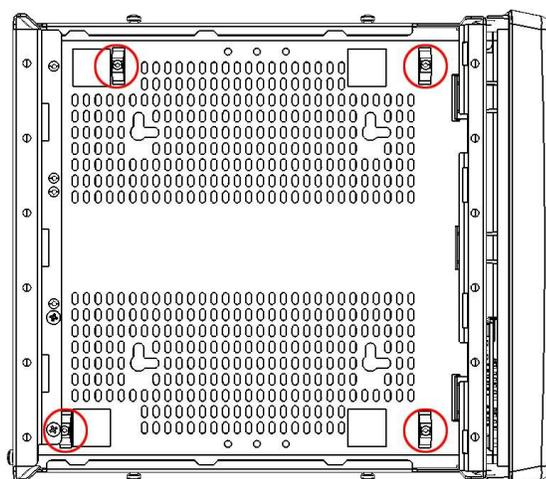

Figure 27. Install Motherboard
3. Install the motherboard on the base plate using four screws as shown in Figure 27.